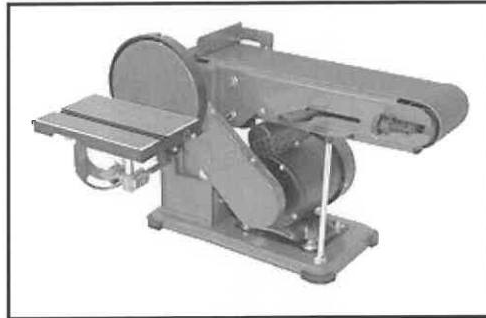

FIGURE 4.4
4.4 FIGURE 4.4 below shows a woodworking machine.